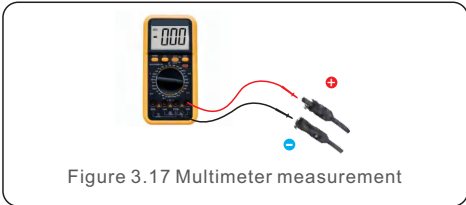
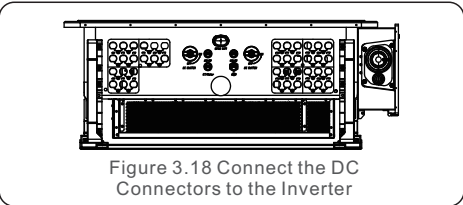

Figure 3.17 Multimeter measurement
Figure 3.18 Connect the DC Connectors to the Inverter
5. Measure PV voltage of DC input with multimeter, verify DC input cable polarity (see figure 3.17), and ensure each string voltage is in range of inverter operation. Connect DC connector with inverter until hearing a slight clicking sound indicating successful connection. (see figure 3.18)